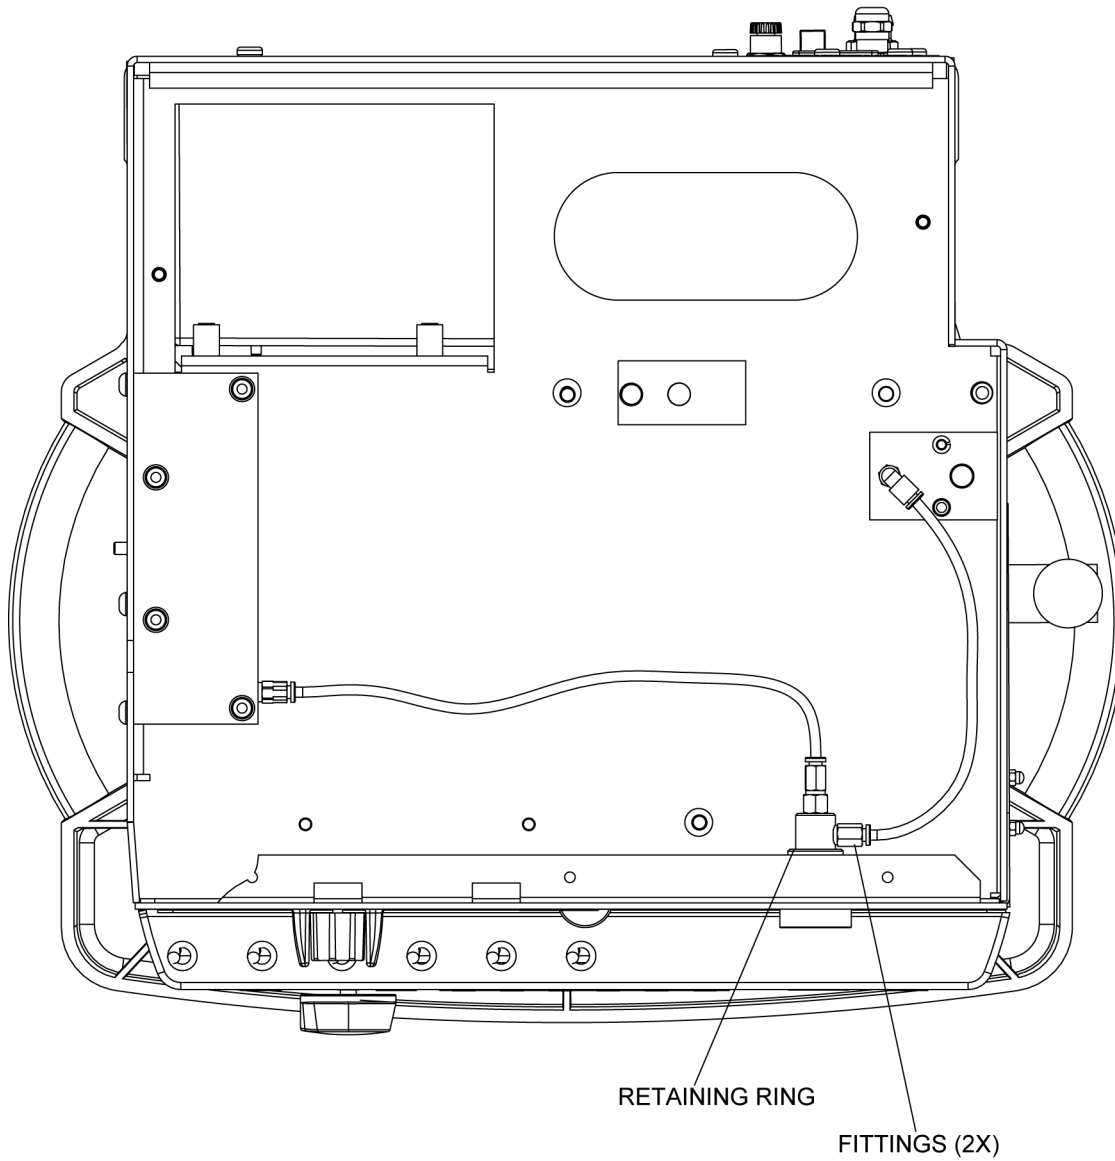

Figure 7 O2 Flush Valve
The O2 flush valve is accessible from the underside of the table top. Valve removal requires disconnecting the plastic tubing and removal of the fittings. Figure 7 shows mounting and tubing arrangement for the valve.
7. Reconnect the tubing to the fittings as shown in Figure 7.